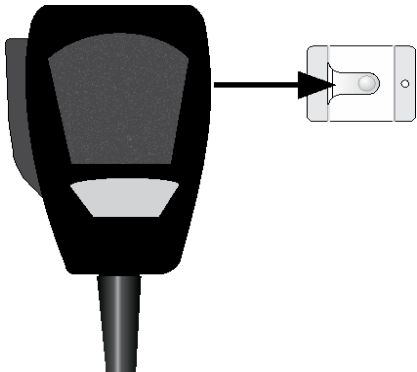

Figure 3: Sliding Microphone into Microphone Clip
1. Clip the microphone into the microphone clip. See Figure 3.